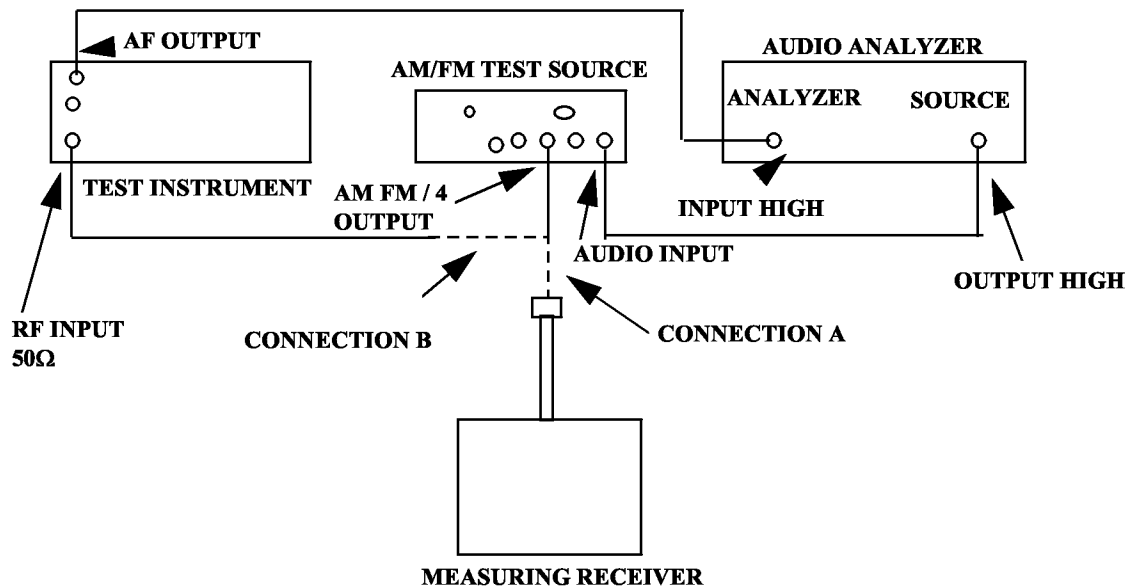

Figure 6. FM and PM accuracy.
- (1) Connect equipment as shown in figure 6, CONNECTION A.
(7) Connect equipment as shown in figure 6, CONNECTION B.
(8) Press TI pushbuttons as indicated in (a) through (d) below:
(9) TI **LEVEL/DATA ENTRY** display will indicate within $\pm 3\%$ + one count of the recorded value in (6) above.
(10) Connect equipment as shown in figure 6, CONNECTION A.
(11) Press audio generator **SOURCE LEVEL** pushbuttons to 764 mV.
(12) On measuring receiver, record frequency modulation displayed indication.
(13) Connect equipment as shown in figure 6, CONNECTION B.
(14) TI **LEVEL/DATA ENTRY** display will indicate within $\pm 3\%$ + one count of the recorded value in (12) above.
(15) Audio analyzer display will indicate $<0.15\%$ distortion.
(1) Connect equipment as shown in figure 6, CONNECTION A.
(2) Press audio generator **SOURCE LEVEL** pushbuttons to 153 mV.
(3) On measuring receiver, press **PM** pushbutton and record phase modulation displayed indication.
- (4) Connect equipment as shown in figure 6, CONNECTION B.
- (5) Press **TI LEVEL DISPLAY** to **PM** pushbutton (on).
- (6) **TI LEVEL/DATA ENTRY** display will indicate within $\pm 3\%$ + three counts of the recorded value in (3) above.
- (7) Connect equipment as shown in figure 6, CONNECTION A.
- (8) Press audio generator **SOURCE LEVEL** pushbuttons to **229 mV**.
- (9) On measuring receiver, record phase modulation displayed indication.
- (10) Connect equipment as shown in figure 6, CONNECTION B.
- (11) **TI LEVEL/DATA ENTRY** display will indicate within $\pm 3\%$ + three counts of the recorded value in (9) above.